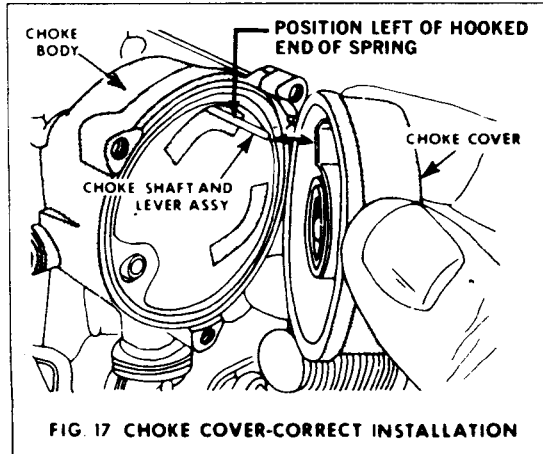

FIG. 17 CHOKE COVER-CORRECT INSTALLATION
4. For detail installation of choke cover to choke shaft and lever assembly see Fig. 17.